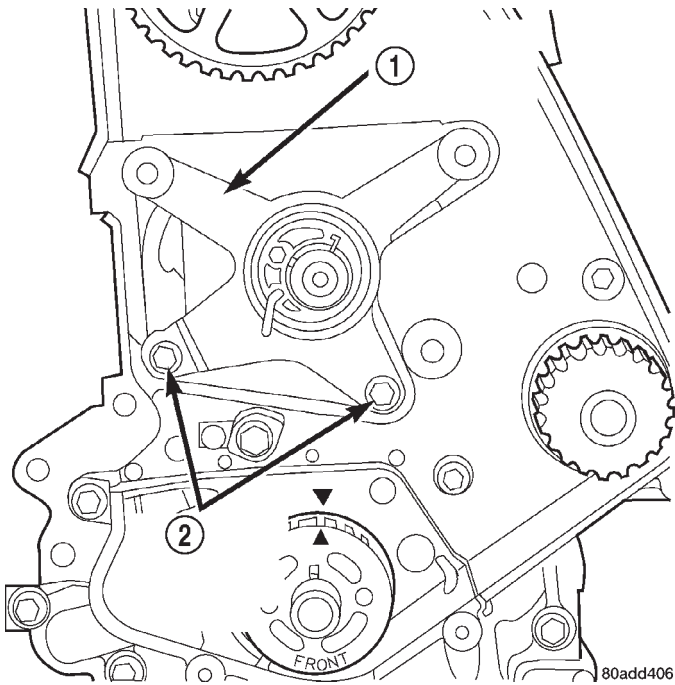

Fig. 78 Timing Belt Tensioner Assembly—Removal/Installation
(1) Remove timing belt. Refer to procedure in this section.
(2) Remove tensioner assembly attaching bolts (Fig. 78).
(3) Remove tensioner assembly.